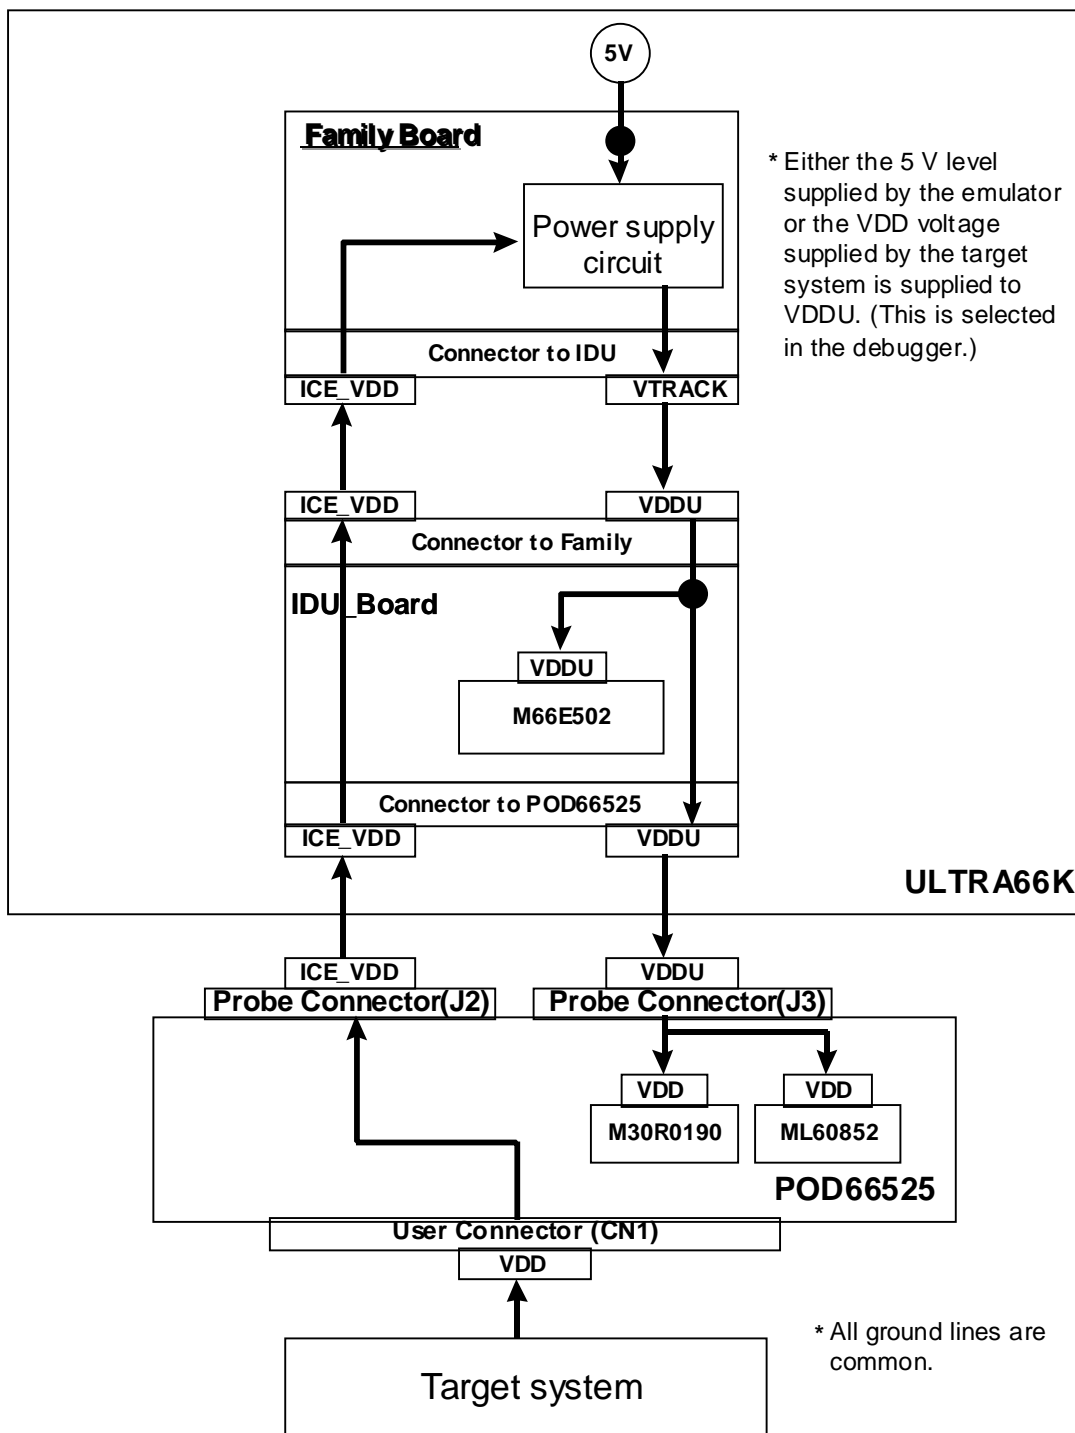

Figure A-2 Ultra66525 Power Supply Lines
In the Ultra66525 Development System, the ML66565 consists of (1) the nX-8/500S CPU core common evaluation chip (MSM66E502) that is included in the Ultra66K Development System, (2) the special-purpose evaluation chip (M30R0190) for the ML66525 that is included in the POD66525, and (3) the USB control IC (ML60852). The supply voltage selected for the PathFinder-U66K becomes the VDDU line voltage in figure A-2, and the operating voltage for the ML60852, the M30R0190 on the POD66525, and the MSM66E502.
The power supplied from the target system is supplied to the Ultra66K emulator from the POD66525 user connector (CN2) shown in figure A-2 through the ICE\_VDD line, and connected to the VDDU mentioned above by selecting "Target" in the PathFinder-U66K debugger. (See reference A-1.) (See note A-1.)